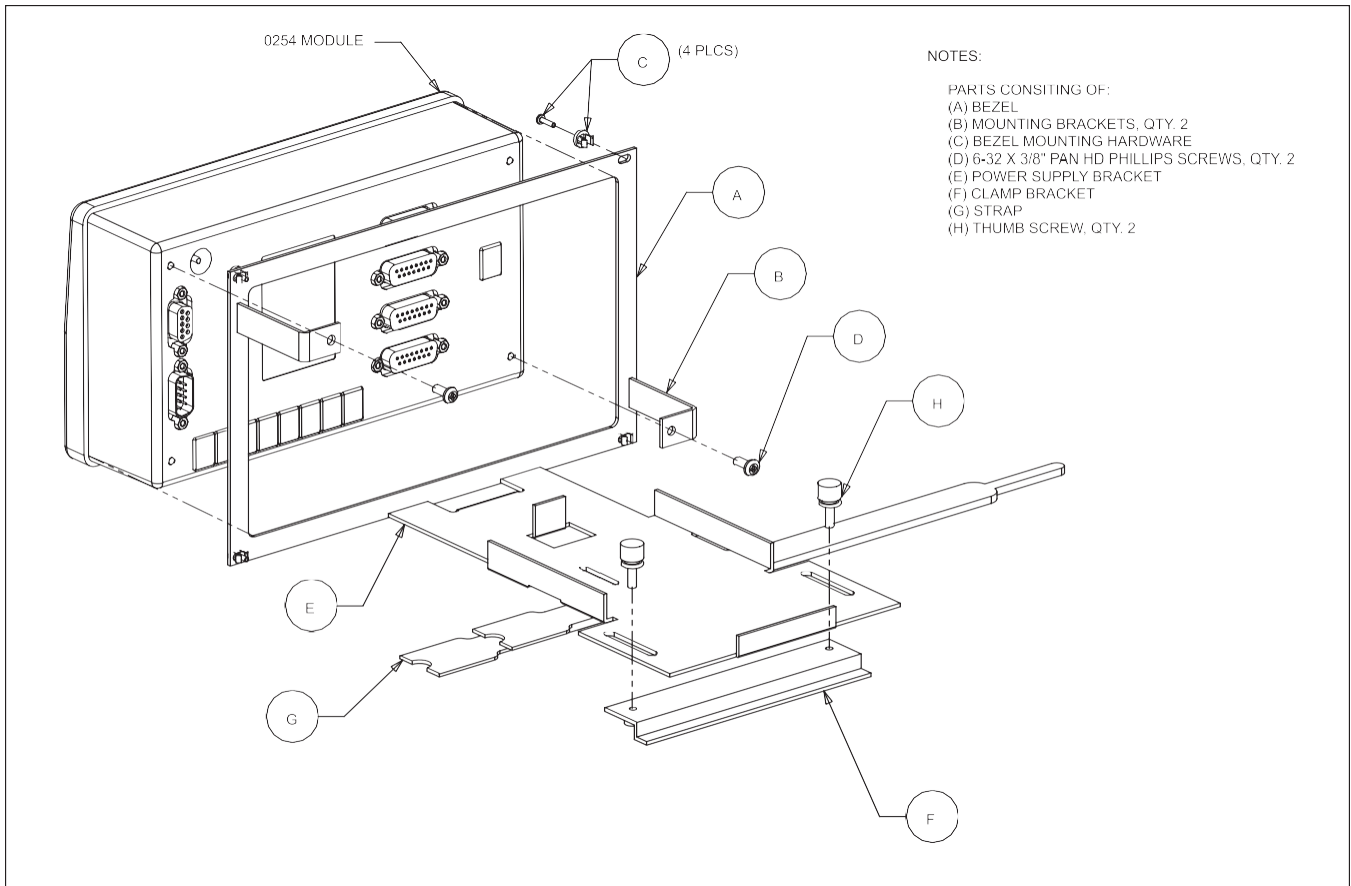
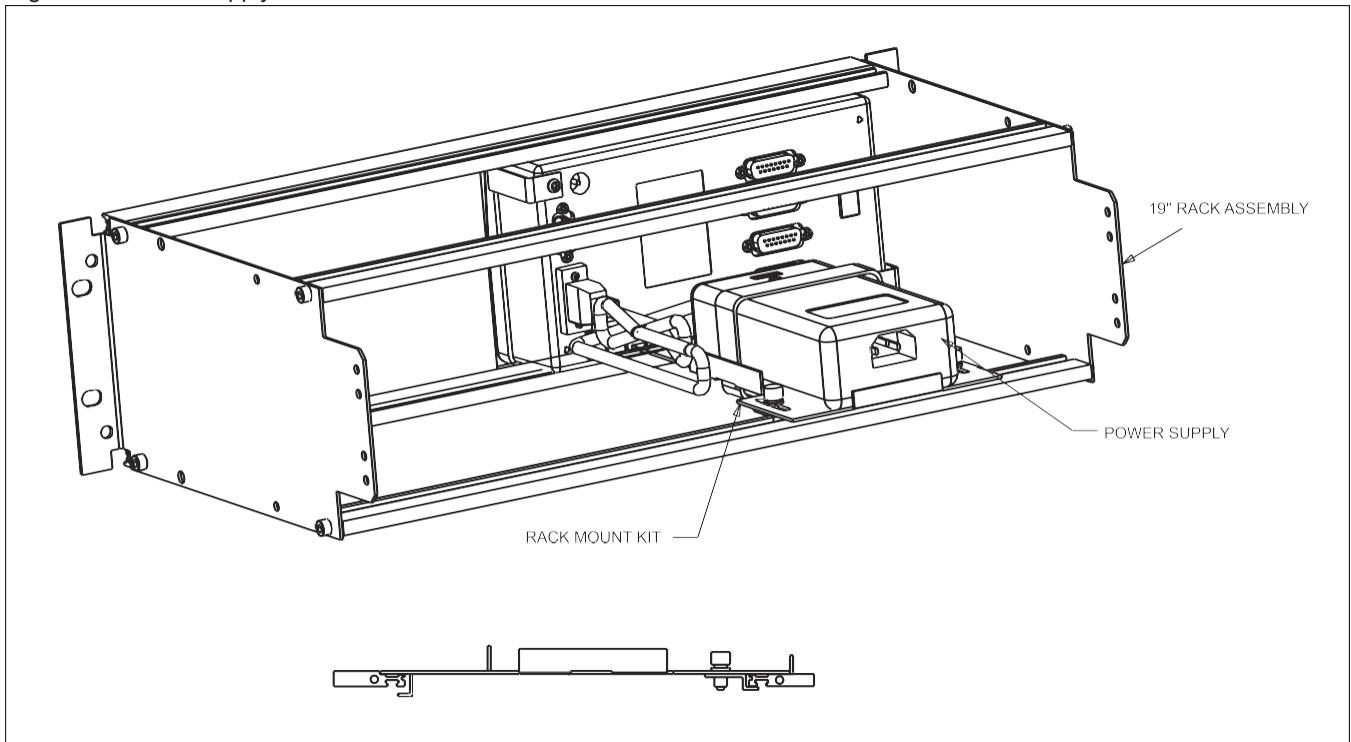

Figure 2-3 Power Supply Bracket and Bezel
Figure 2-4 Rack Installation
1. Slide the flange on the front of the power supply bracket, shown in Figure 2-3, under the rear channel rail of the box. For an illustration of the rail engagement, refer to Figure 2-4.
2. Slide the flange on the front of the power supply bracket, shown in Figure 2-3, under the rear channel rail of the rack.
Figure 2-4 shows a completed rack installation.